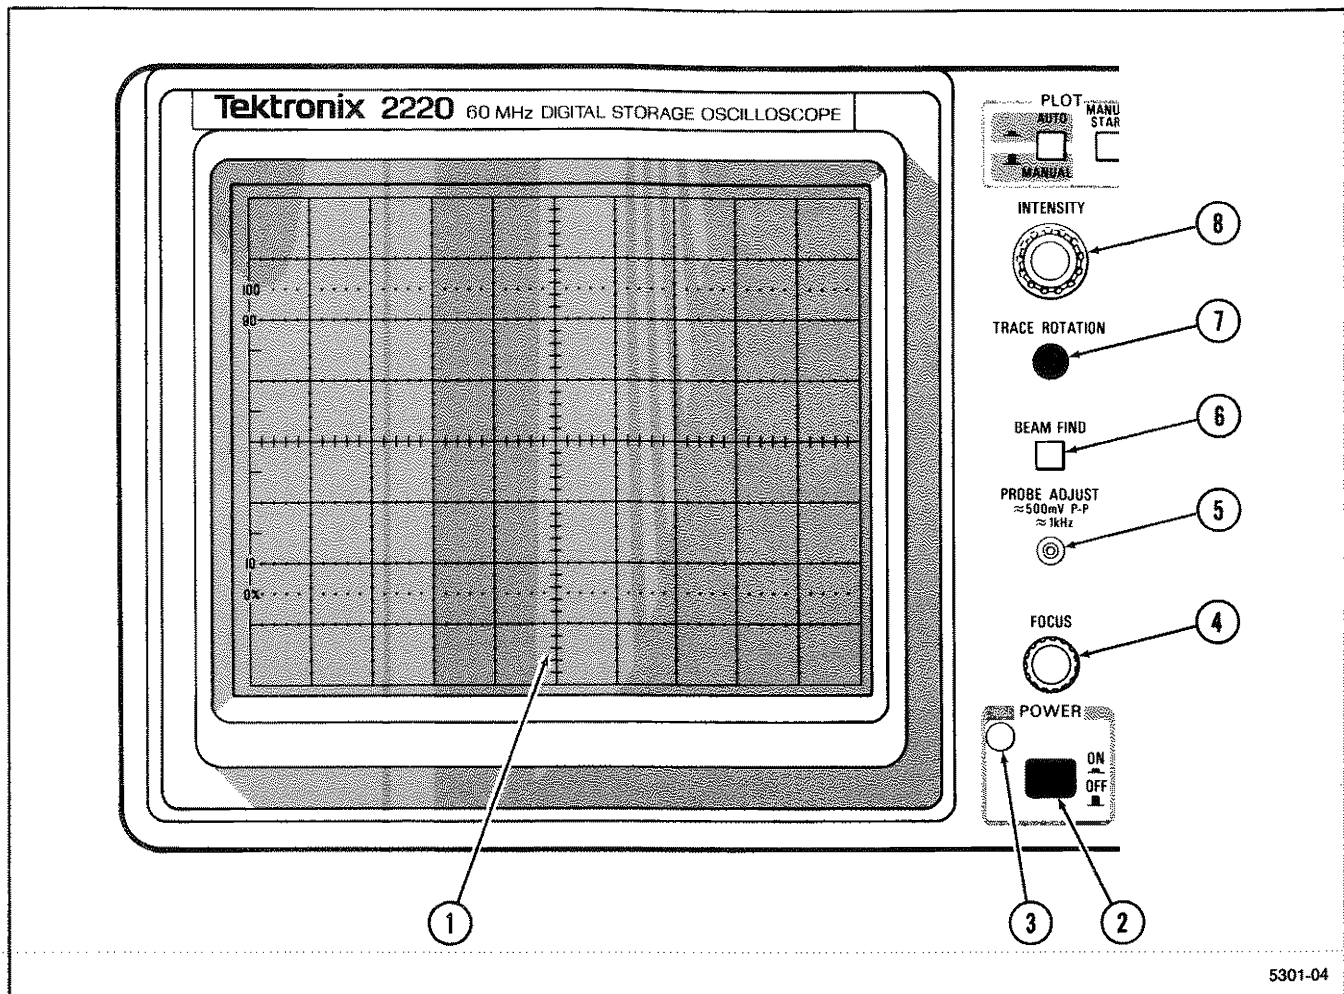

Figure 3-1. Power and display controls and power-on indicator.
See Figure 3-1 for the location of items 1 through 8.
- ① **Internal Graticule**—Eliminates parallax viewing error between the trace and the graticule lines. Rise-time amplitude and measurement points are indicated at the left edge of the graticule.
- ② **POWER Switch**—Turns instrument power on or off.
- ③ **Power On Indicator**—Lights up while instrument is operating.
- ④ **FOCUS Control**—Adjusts for optimum display definition. Once set, proper focusing is maintained over a wide range of display intensity.
- ⑤ **PROBE ADJUST Connector**—Provides an approximately 0.5 V, negative-going, square-wave voltage (at approximately 1 kHz) for use in compensation voltage probes and checking the vertical deflection system. The PROBE ADJUST output is not intended as a reference in checking either the vertical or the horizontal accuracy of the instrument.
- ⑥ **BEAM FIND Switch**—Compresses the vertical and horizontal deflection to within the graticule area and intensifies the display to aid the user in locating traces that are overscanned or deflected outside of the crt viewing area.
- ⑦ **TRACE ROTATION Control**—Permits alignment of the trace with the horizontal graticule line. This control is a screwdriver adjustment that, once set, should require little attention during normal operation.
- ⑧ **INTENSITY Control**—Adjusts the brightness of all displayed STORE and NON STORE waveforms.